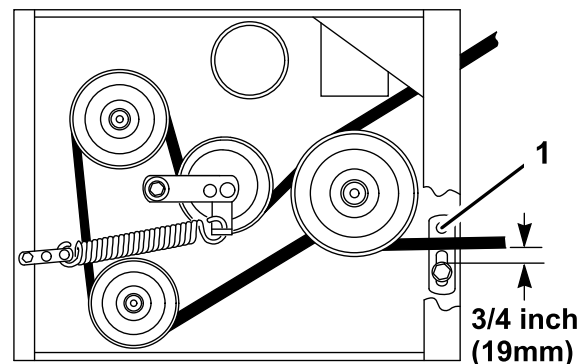

Figure 46
8. Check the belt guide under the engine frame for proper adjustment (Figure 46).
Note: The distance between the belt guide and the mower belt should be 3/4 inch (19 mm) when you engage the mower belt (Figure 46). Adjust the mower belt guide as necessary. The disengaged belt should not drag or fall off the pulley when the guides are properly adjusted.